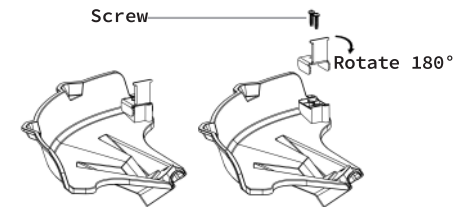
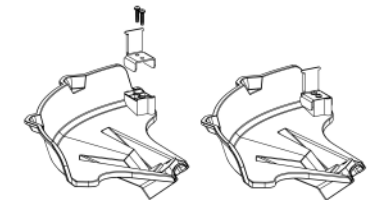

Fig. 7A
Fig. 7B
2. Remove both screws on the cut-off blade with a hex wrench. (Fig.7A)
3. Rotate the cut-off blade 180°. (Fig.7A/Fig.7B)
4. Re-assemble both screws in the blade. (Fig.7B)